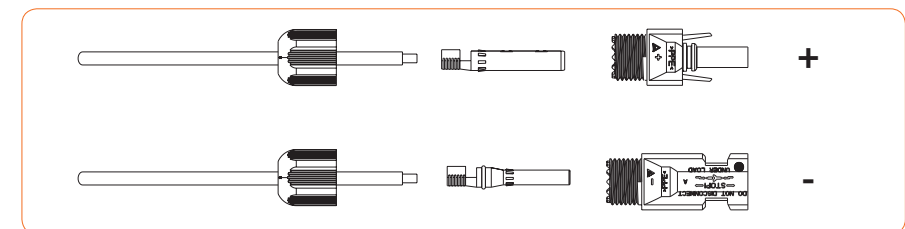

Figure 4-10
③ Disassemble the connector in the accessory bag, as shown in Figure 4-10: